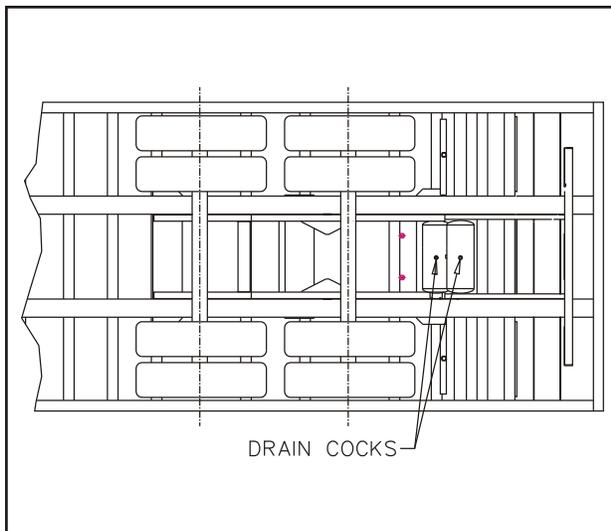

FIGURE 4-8 DRAIN COCK LOCATIONS
- Drain air reservoir daily. A drain cock on the bottom of each air reservoir vents the tank to drain collected water and oil. If held open, air pressure in the tanks is relieved, causing the emergency or parking brakes to be applied (See Figure 4-8).
- b. Drain the semitrailer air system of all air and moisture. (**See Figure 4-8**).